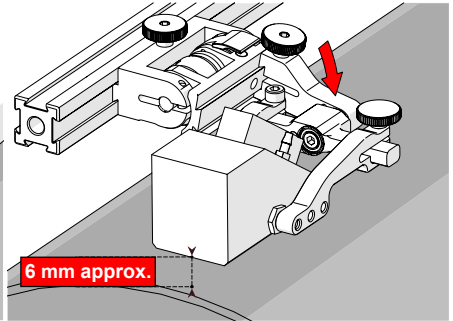

Fig. 175 - Lower to scanning surface
2. Push the probe holder yoke down toward the inspection surface until the wedge is approximately 6 mm ( $\frac{1}{4}$  in) from the inspection surface (Fig. 175).